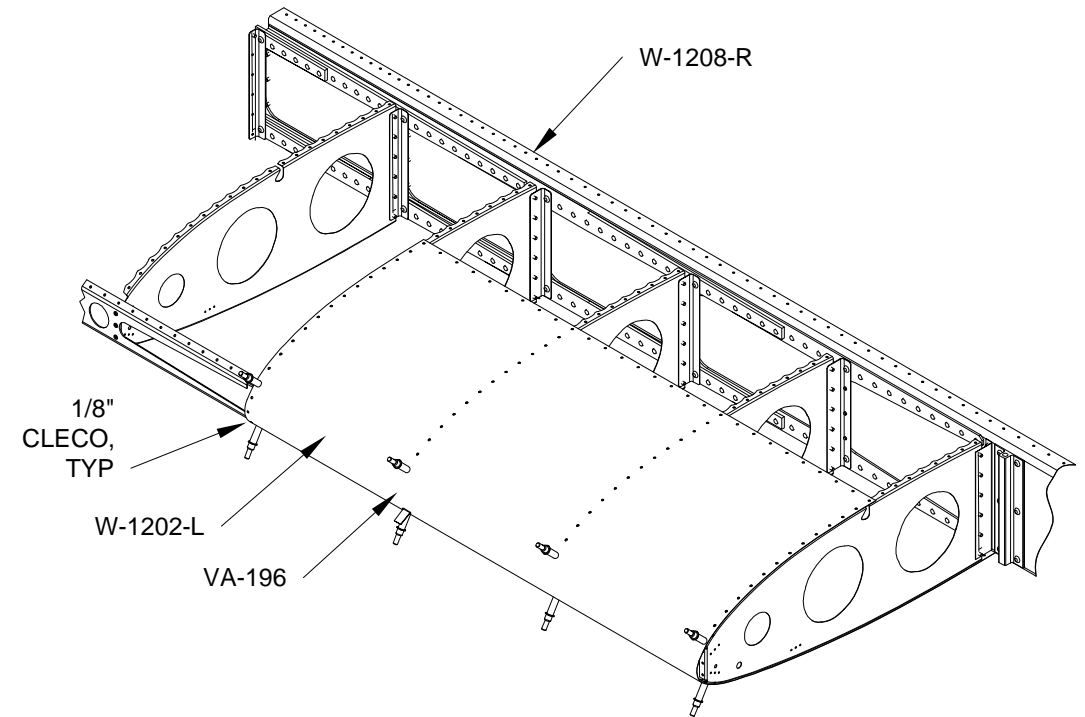

FIGURE 3: ADJUSTING THE MICRO SWITCH
Step 7: Carefully position the W-1202-L Mid Wing Skin over the W-1208-R Nose Ribs and Stall Warning Subassembly and cleco as shown in Figure 3.